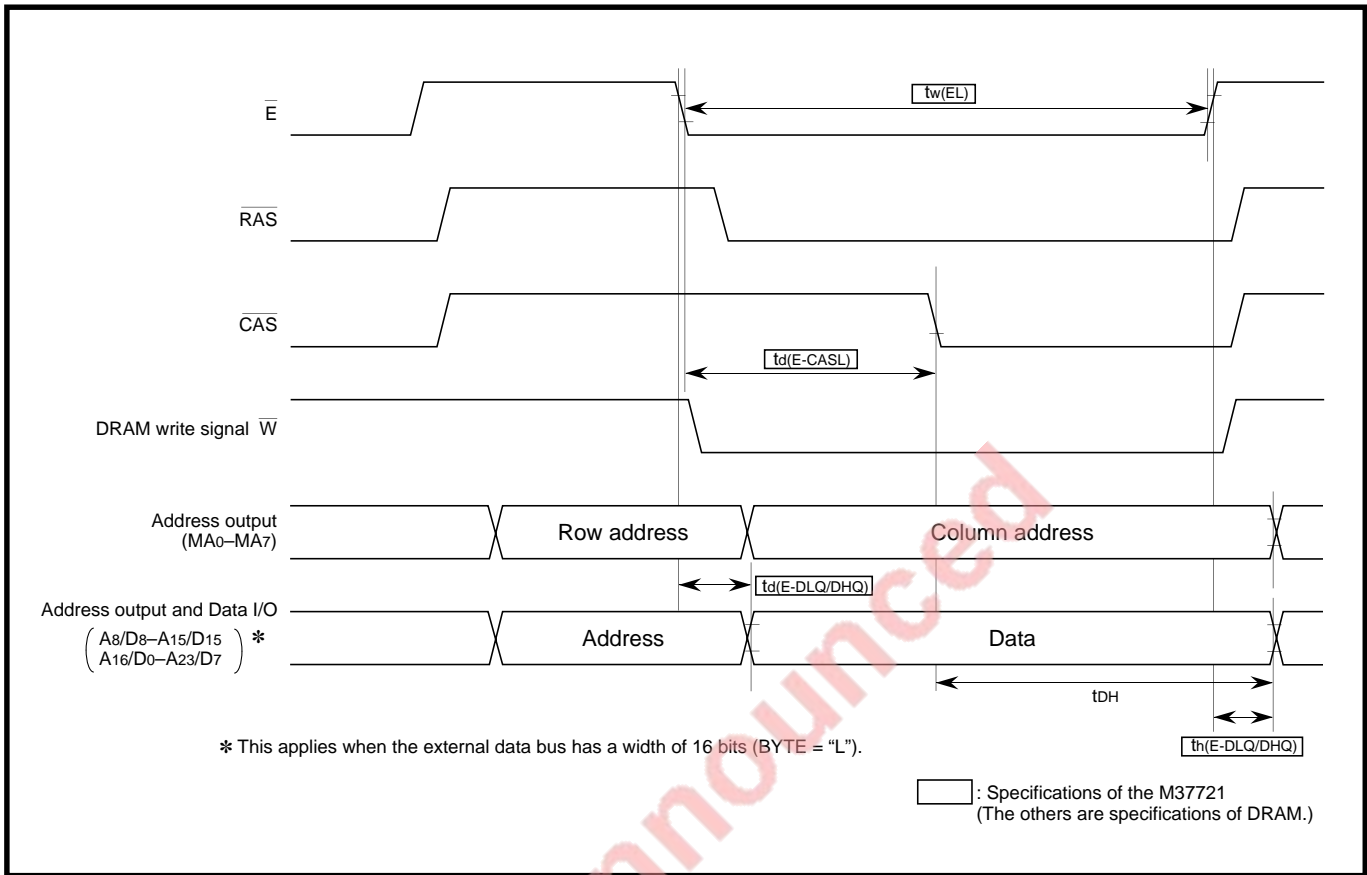

Fig. 16.1.7 Timing for writing data to DRAM
Table 16.1.5 lists the calculation formula and value for each parameter in Figure 16.1.7. Figure 16.1.8 shows the relationship between  $t_{DH}$  and  $f(X_{IN})$ .
**Table 16.1.5** Calculation formula and value for each parameter in Figure 16.1.7 (unit : ns)